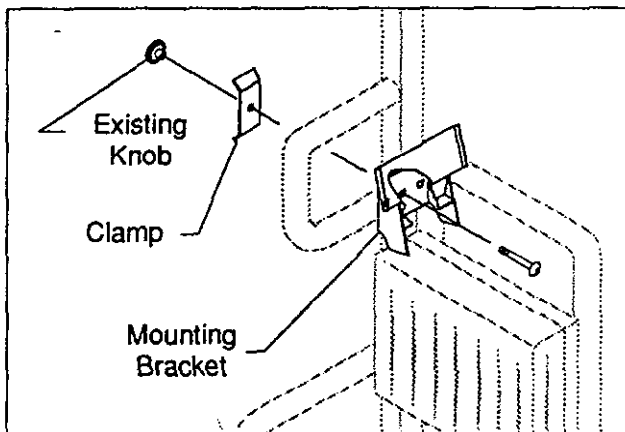

Figure 2
2. Mount the controller bracket to the R.H. shoulder restraint through the center hole on the control box bracket using a 3/8" x 1-1/4" carriage bolt. (See Fig. 2)
3. Place the controller to the inside of the shoulder restraint and the clamp to the outside of the shoulder restraint. Assemble with plastic knob already provided with the GA-60 controller. (See Fig. 2)